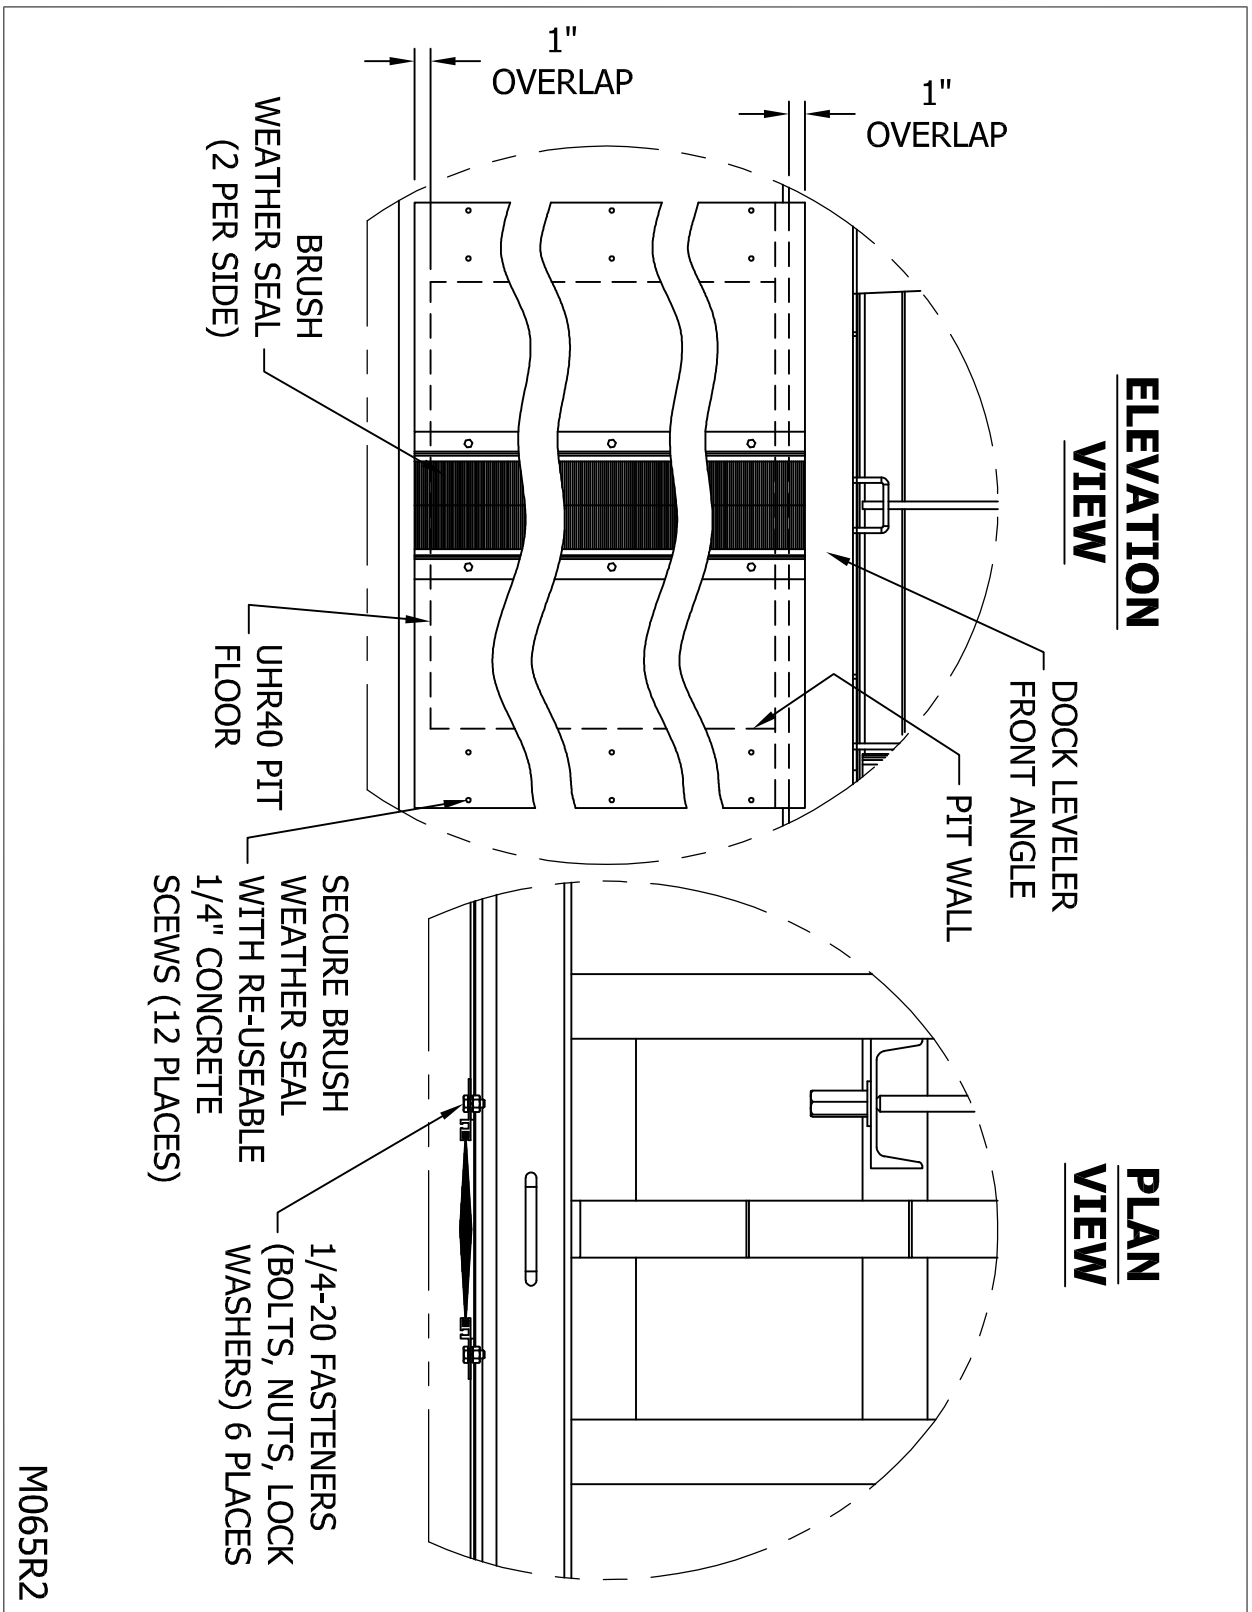

Figure 5: Mounting the Brush Weather Seal
7. If these indicators are not lit as per step (6), check all connections before proceeding to ADJUSTMENTS AND TESTING on page 14.
9. ☐ Trim the height of the brush weather seal assemblies so that they overlap the 2" step at the bottom front of the restraint by 1" and the dock leveler front angle by approximately 1". Ensure that the two halves of the brush weather seal assemblies meet at the center of the pit opening. Fasten brush weather seal assemblies to the dock face using 1/4 concrete screws of the type that are removable and re-useable (see Figure 5: Mounting the Brush Weather Seal on page 9). Note: If the trimming operation removes some bolt holes and fasteners, then the cover plate and brush weather seal carrier may need to be re-drilled. This will depend on how much material is removed from the brush weather seal assemblies to suit restraint vertical opening and dock height.